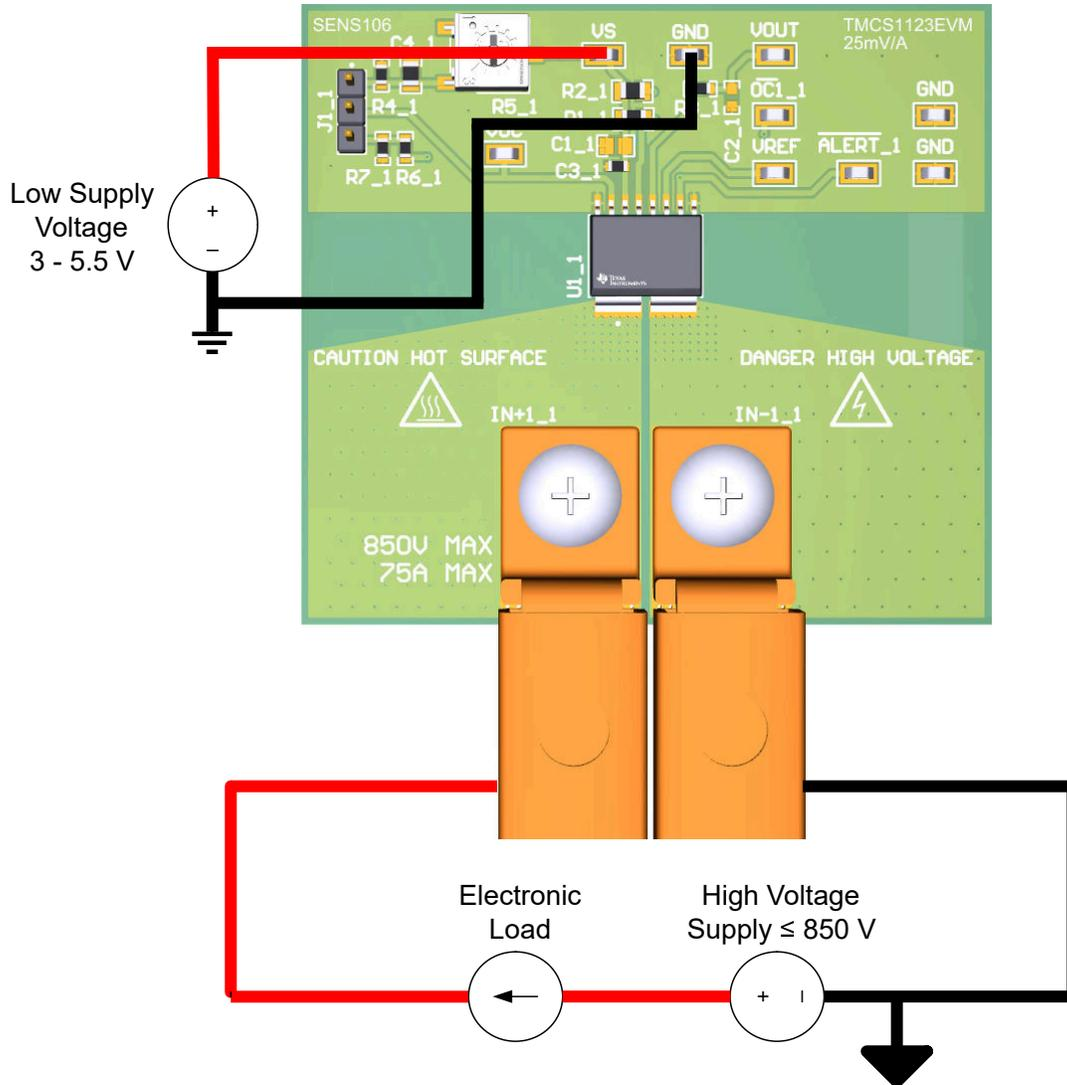

Figure 4-1. Low-Side Forward Current Setup for Reinforced Isolation
The following are instructions to set up and use the TMCS1123xEVM. Figure 4-1 shows an example of a simple, low-side setup on the A1 (25 mV/A) sensitivity variant. This device has isolation, and external supplies are distinguished by "high voltage" (HV) for load and "low voltage" (LV) for DUT supply. The HV supply can be isolated and at a different potential than the LV supply.
1. Connect the electronic load positive input terminal to the positive terminal of a supply capable of sourcing the desired amount of maximum load current (see Figure 4-1)